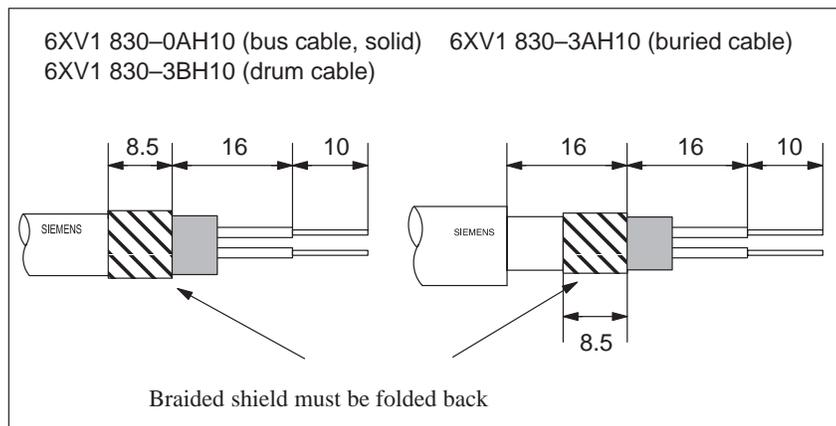

Figure 6-9 Length of stripped ends for connection to RS 485 repeater
2. Strip the ends of the PROFIBUS bus cable as shown in Fig. 6-9.